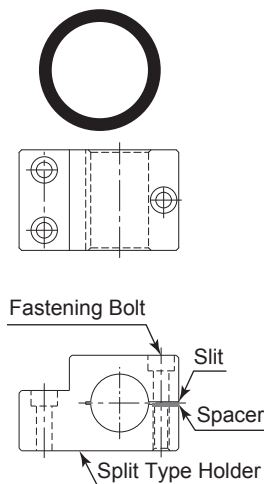
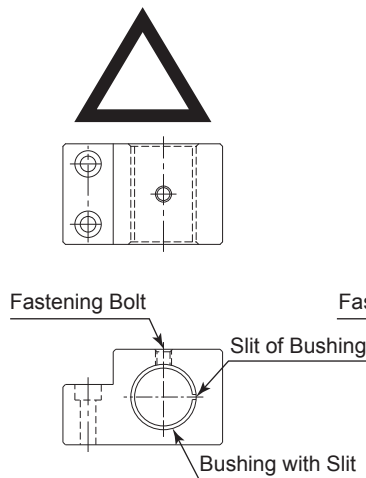

Fig. 15
Fig. 16
② When installing a motor spindle to the holder, recommended installation method is shown in Fig. 15. Refer to "③ How to fabricate the Split Type Holder". If this is not possible, install as shown in Fig. 16.